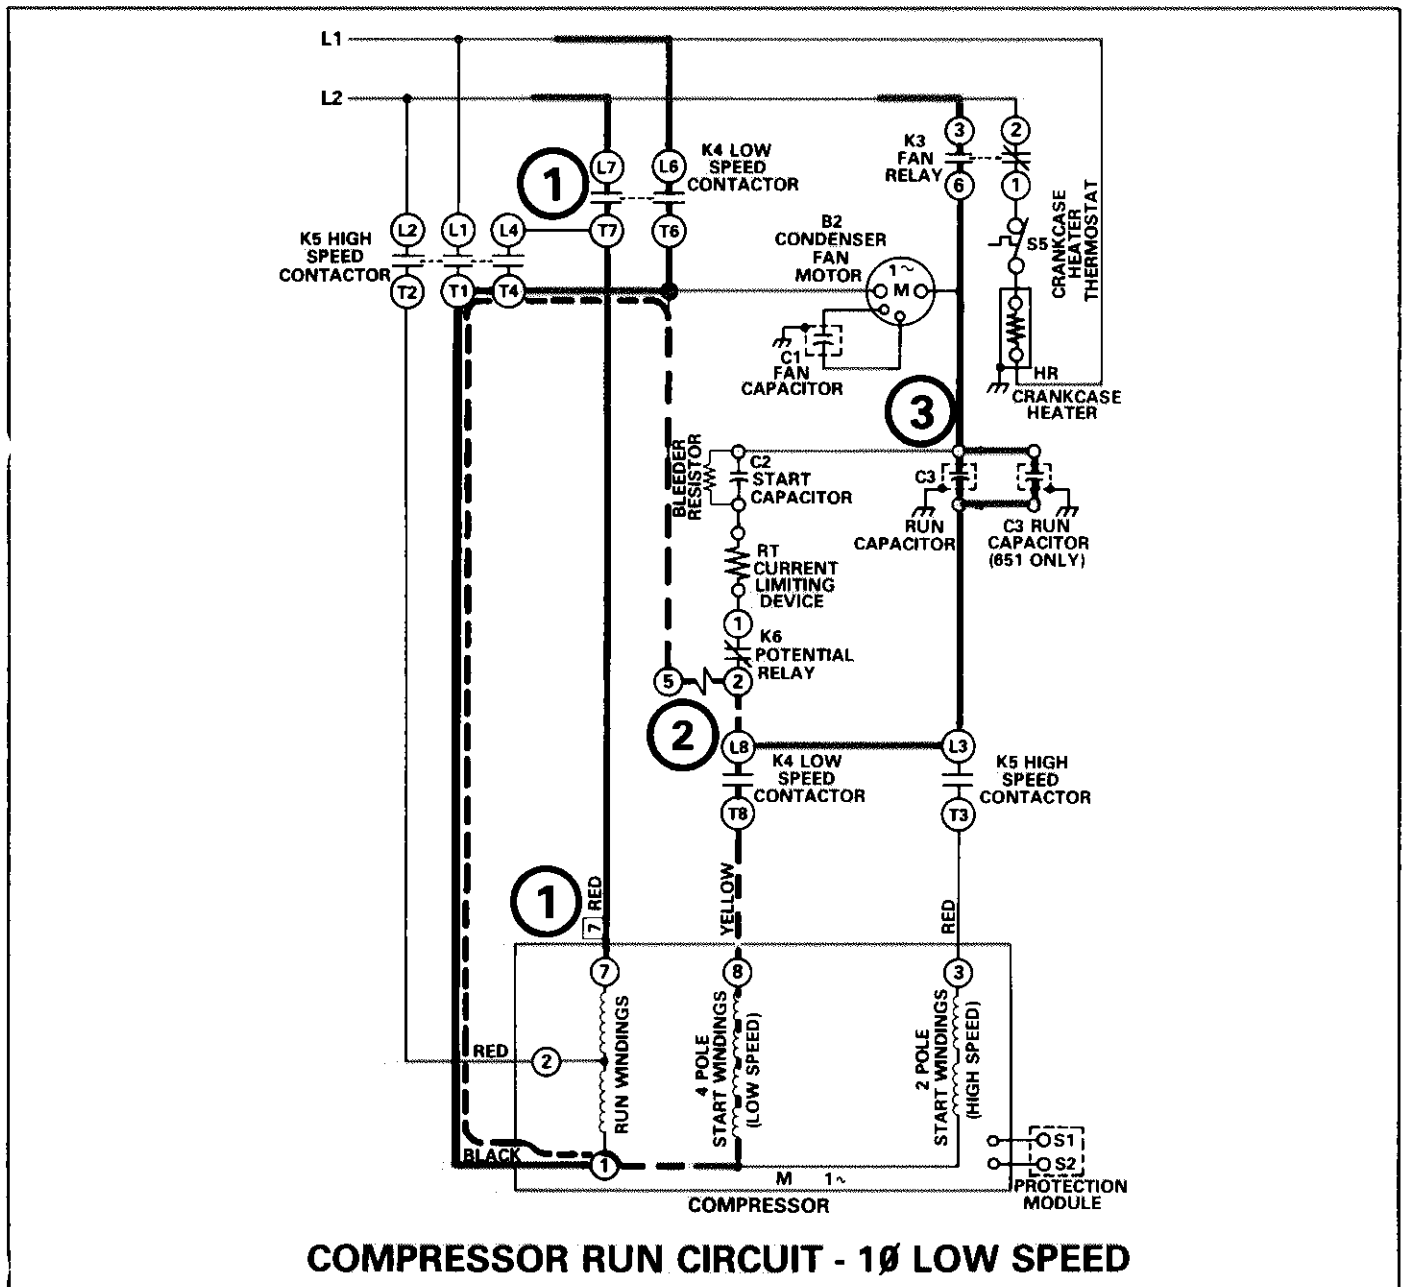

FIGURE 15
- C - Compressor Run Circuit (Figure 15)
## C - Compressor Run Circuit (Figure 15)